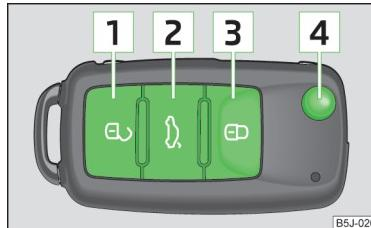

Fig. 33
- Press button **[1]** » Fig. 33.
- Press button **[3]** » Fig. 33.
- Press button **[3]** » Fig. 33 twice within 2 seconds. Further information » page 45.
- Press button **[2]** » Fig. 33. Further information » page 51.
- Press button **[4]** » Fig. 33.
- Press the button **[4]** » Fig. 33 and fold in the key bit.
The turn signal lights flash twice as confirmation that the vehicle has been unlocked. If the vehicle is unlocked using button 1 » Fig. 33 and none of the doors or the tailgate are opened within the next 30 seconds, the vehicle is automatically locked again and the safe securing system or anti-theft alarm system is reactivated. This function is intended to prevent the car being unlocked unintentionally.